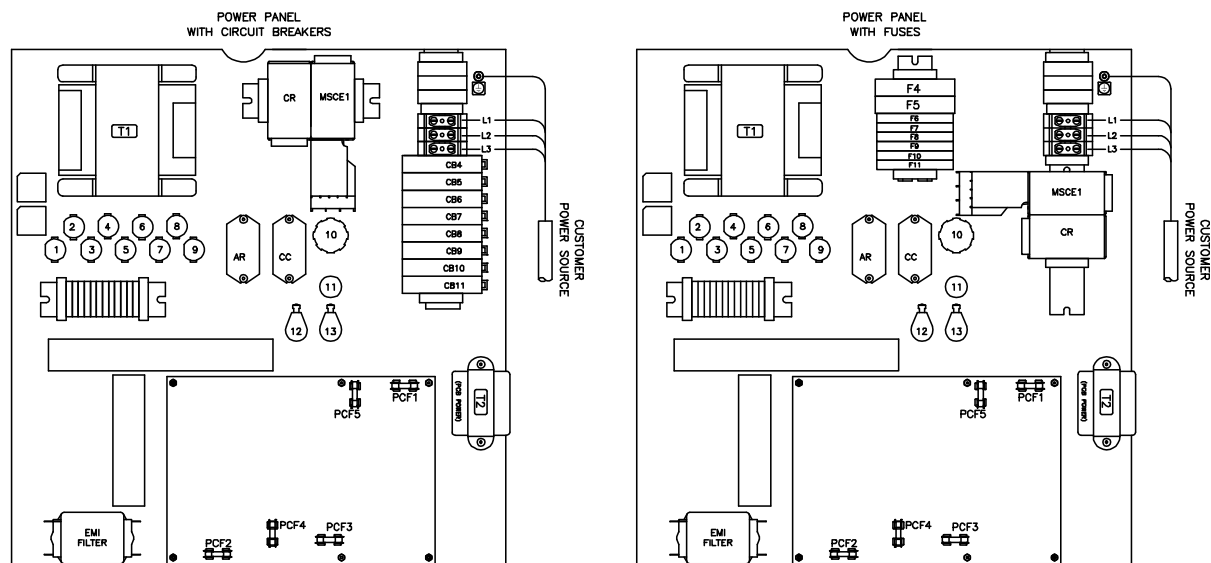

Figure 11
3. Fasten the ground lead to the ground terminal lug (Figure 11).